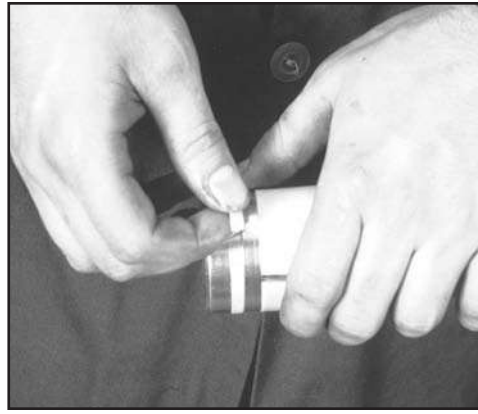

FIG. 75: INSERT THE PISTON SEAL
5. Install the piston seal into the groove. This seal is split (see Fig. 75).